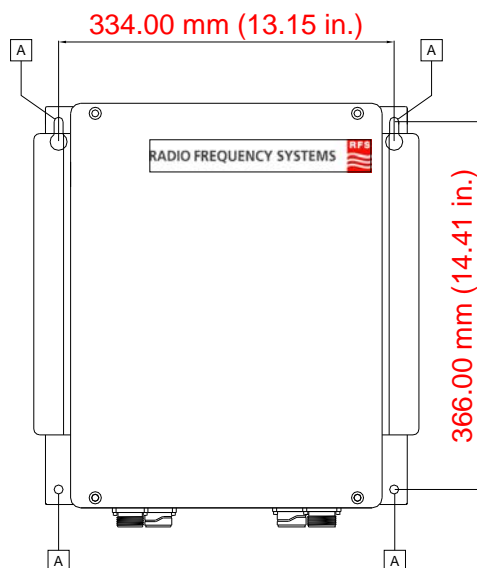

FIGURE 2 - POSITION OF THE HOLES IN THE SUPPORT BRACKETS FOR THE EQUIPMENT
- Lift the equipment and fix its position with four M8 bolts, which are to be inserted in the pre-cut slots (ref. A, FIGURE 2).